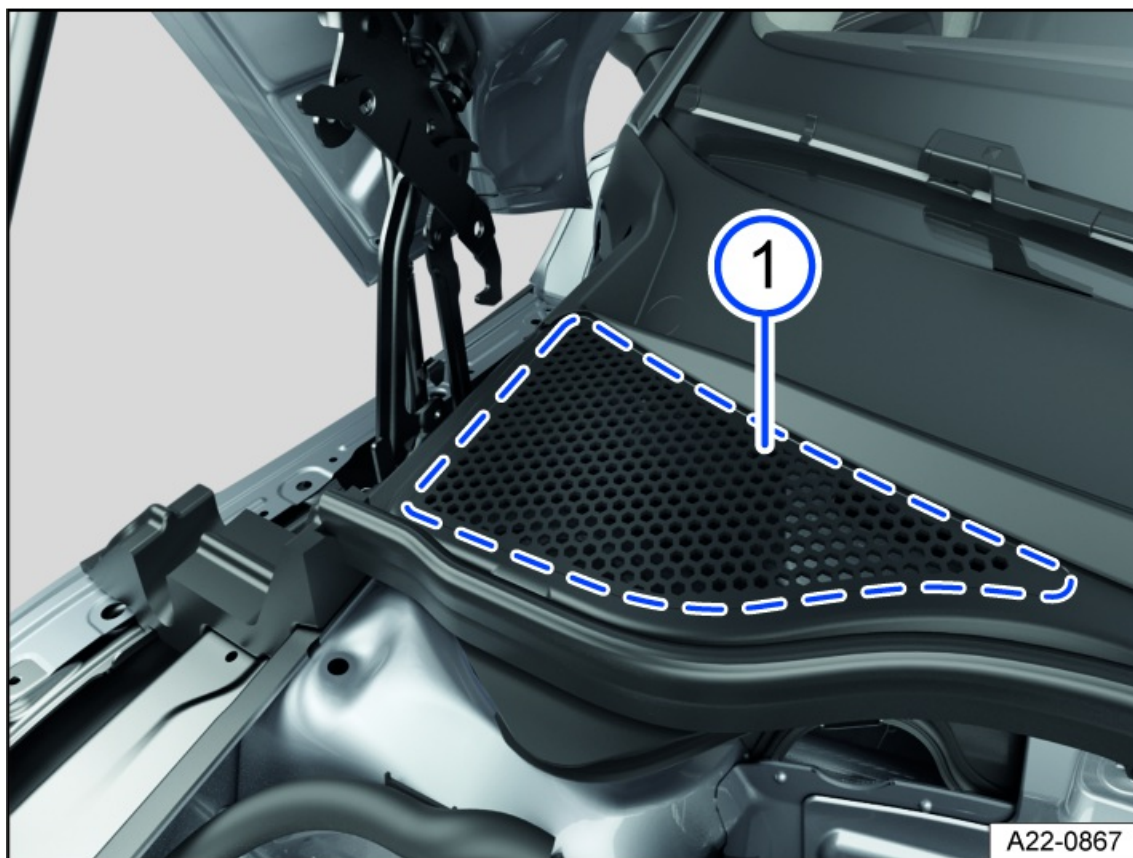

Fig. 194 Between the engine compartment and windshield: plenum chamber (general example).
- Have the area under the perforated cover regularly cleaned by an authorized Volkswagen dealer or authorized Volkswagen Service Facility qualified in this respect fig. 194. Volkswagen recommends contacting an authorized Volkswagen dealer or authorized Volkswagen Service Facility.
- Remove leaves or other loose objects with a vacuum or by hand fig. 194.